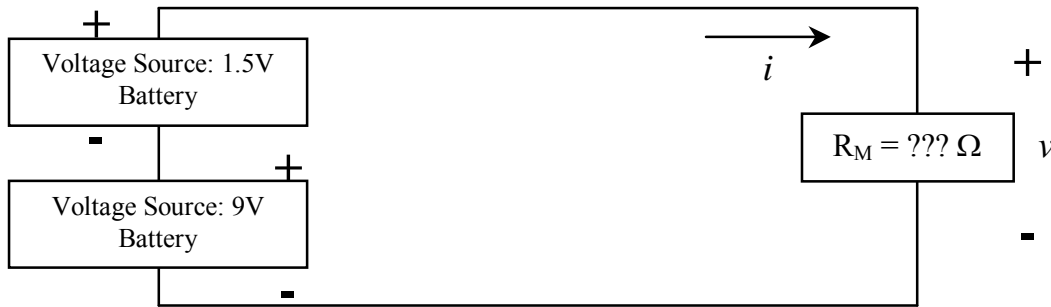

Figure P2-3 - Circuit for Procedure 2.e.
e. (2 points) Connect the 9V battery and the 1.5 V battery in series across the mystery resistor R_M . See Figure P2-3. Repeat steps b and c.